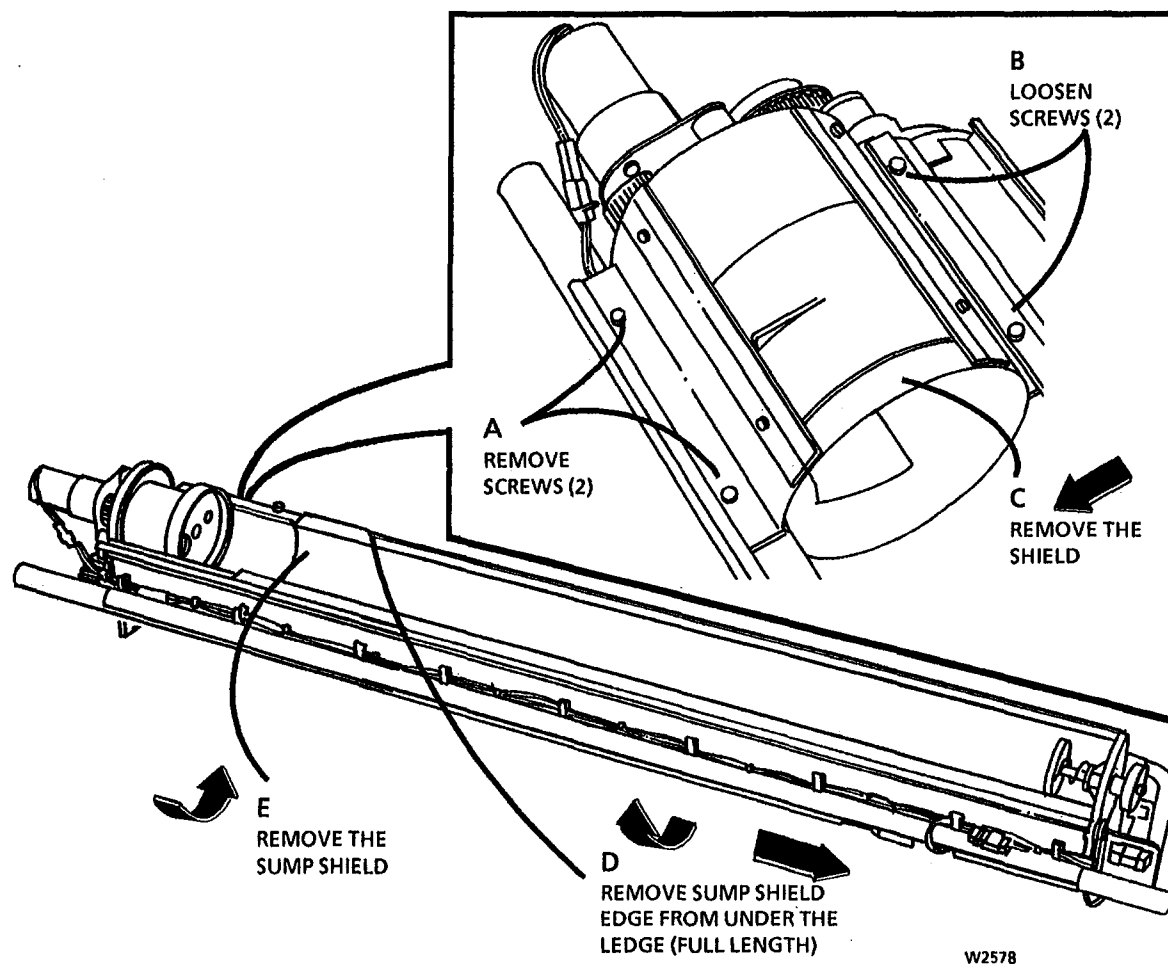

Figure 1. Remove the Sump Shield from the Developer Module
3. (Figure 1): Remove the Sump Shield from the Developer Module.